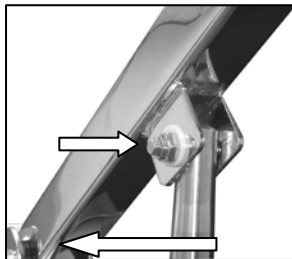

Figure 5: T-Boom - Lifter Pump Connection
STEP 6: (Figure 5) Attach and securely tighten the rod-end of the Lifter Pump (7) to the T-Boom (5) using 3/8-16 x 1 1/4 in shoulder bolt, washer and 3/8-16 lock nut. All are shipped “finger tight” in place on T-Boom. Also tighten the Mast/T-Boom hinge lock nut securely.